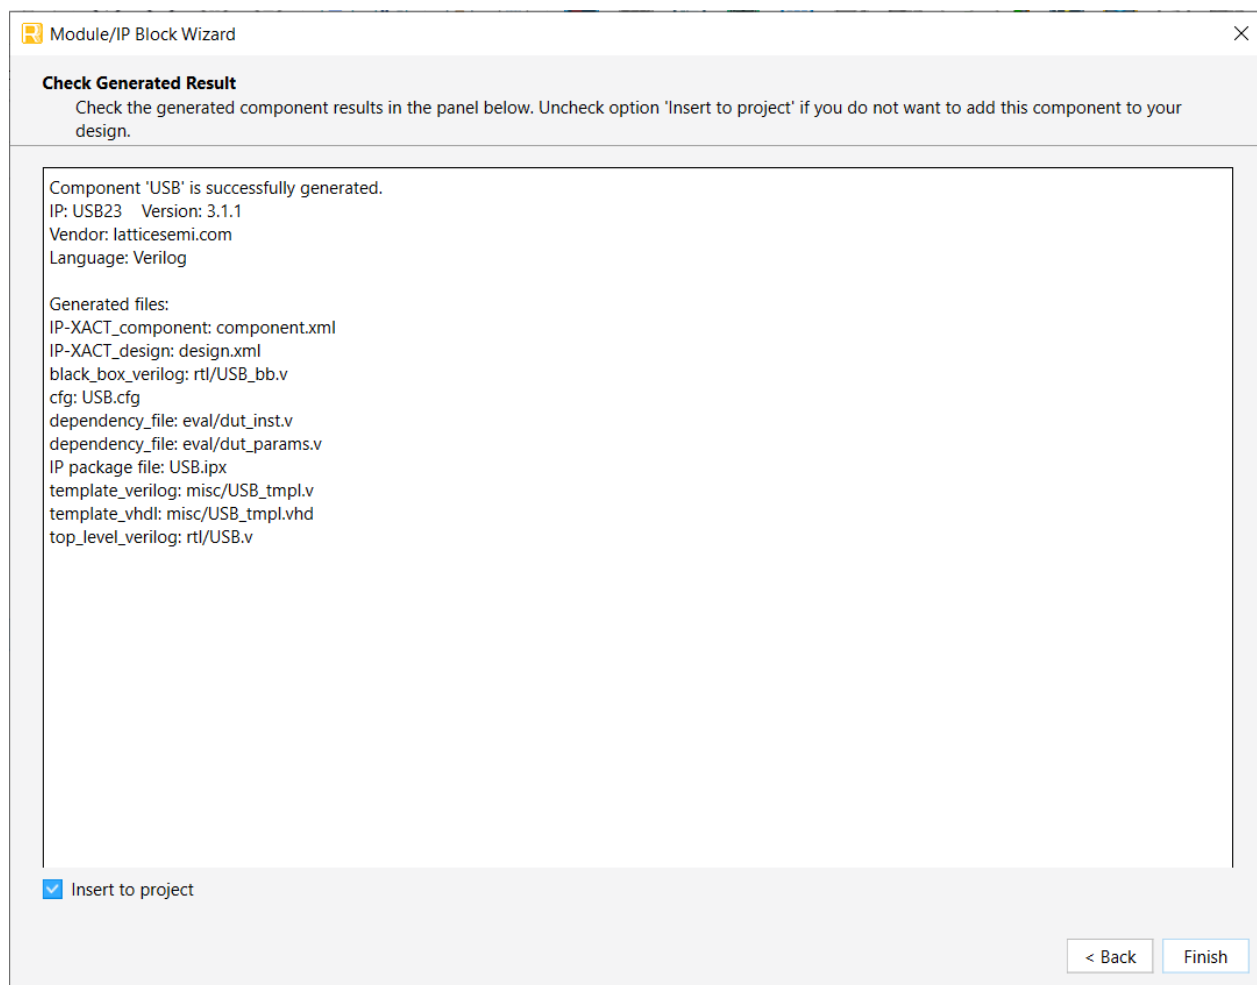

Figure 7.3. Check Generated Result
4. Click **Generate**. The **Check Generated Result** dialog box opens with design block messages and results, as shown in Figure 7.3.